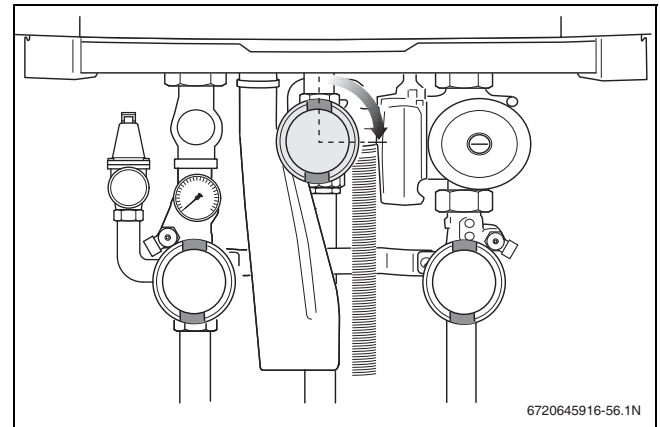

Fig. 59 Closing the gas valve
- ▶ Close the gas valve (→ fig. 59).
- ▶ Close the gas shutoff valve when no more air is present (→ fig. 59).